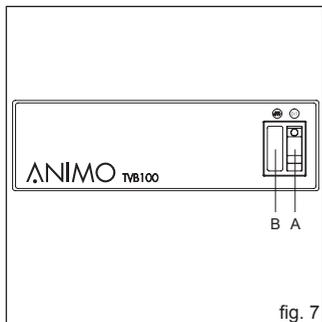

fig. 7
6. CONTROL PANEL (FIG. 7)
- If coffee is only kept warm for an extended period of time, the heating element of the water heater can be switched off by switch A (fig. 7). If coffee is to be made after that time, it will take a few minutes before the water heater has reached the correct temperature.